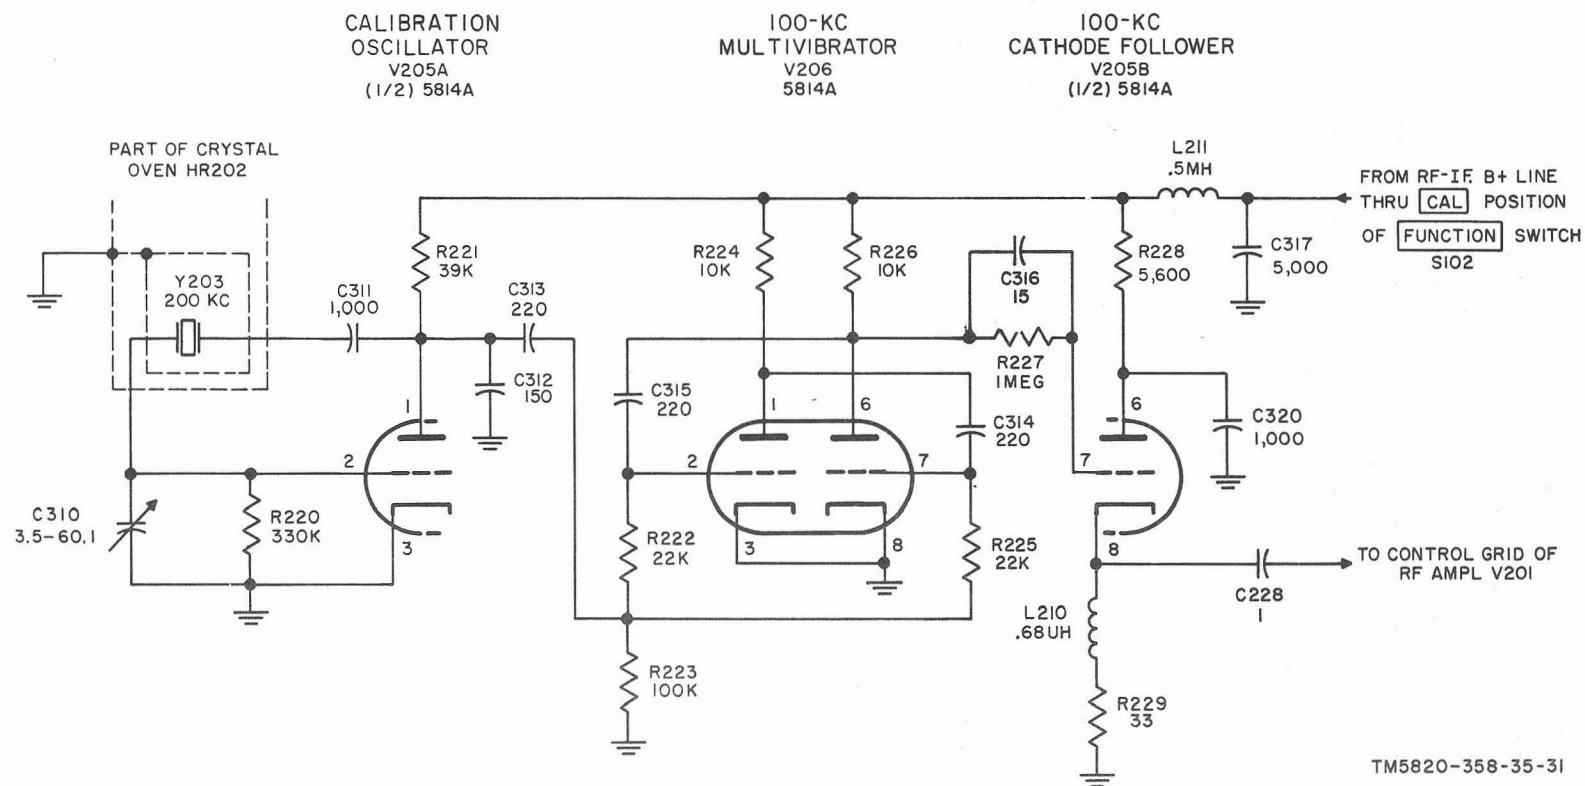

Figure 27. Calibration circuit, 100 kc, simplified schematic diagram.
27. Calibration Circuit, 100 Kc (fig. 27)